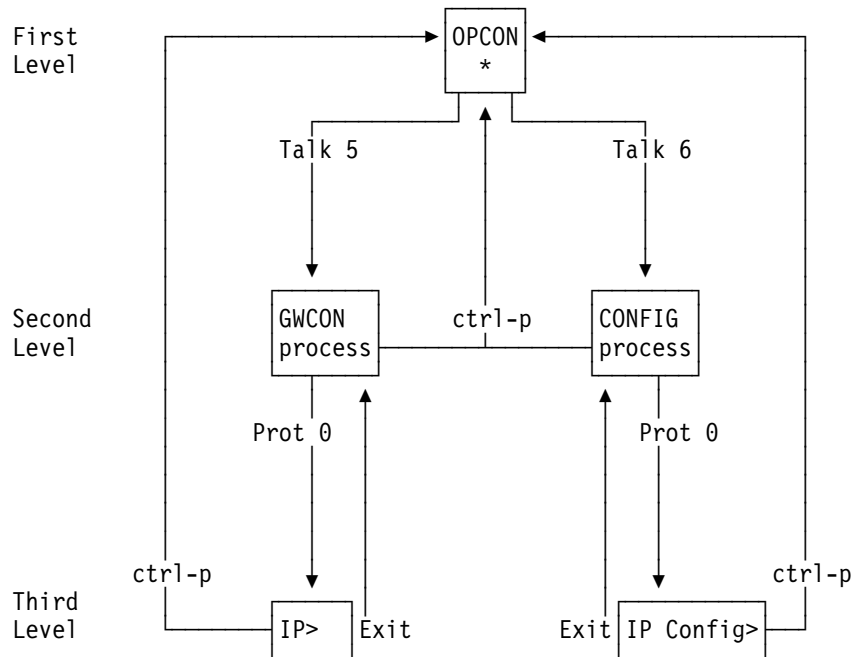

Figure A-1. Structure of the Command Line Interface with the protocol command (Prot) as an example
**Answer** The structure of the interface is shown in Figure A-1 on page A-5.